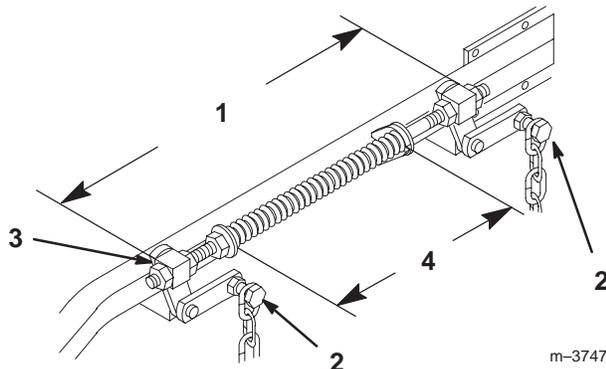

Figure 64
- Loosen four (4) top chain bolts in slots. Check the length of the rod/swivel assemblies. Distance from outside of rear swivel to outside of front swivel should be 19-17/32" (496 mm) (Fig. 64). Make sure that all four swivels move freely in holes.
8. Lift up on four (4) top chain attachment bolts, in the slots, to take slack out of chains and tighten flange lock nuts. (Deck is still supported by two rear and one front blocks under mower.)
2. Springs are compressed so the distance between the two large washers should be 11" (279 mm) (Fig. 64).
3. Adjust by turning nut in front of each spring (Fig. 64). Clockwise will shorten spring; counterclockwise will lengthen spring.